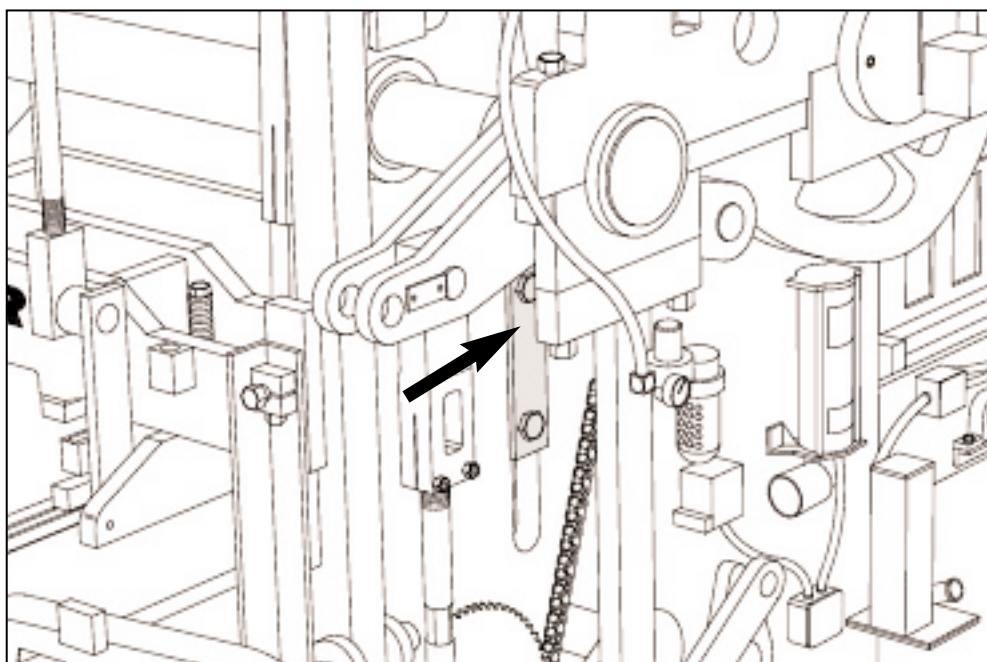

Figure 4.53 LOOSEN "T" CLAMPS ON BOTH SIDES.
a. Loosen the "T" clamps on each side of machine that secures machine side plate to mold throat plate. (figure 4.53).